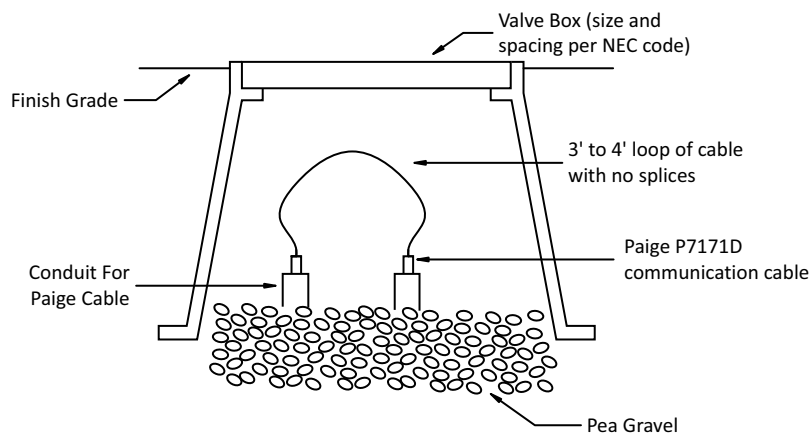

Figure 30 - Pull Box Detail
- Expansion loops in accordance with appropriate NEC codes for pulls of more than 100 feet (Figure 30). Splices are not recommended.